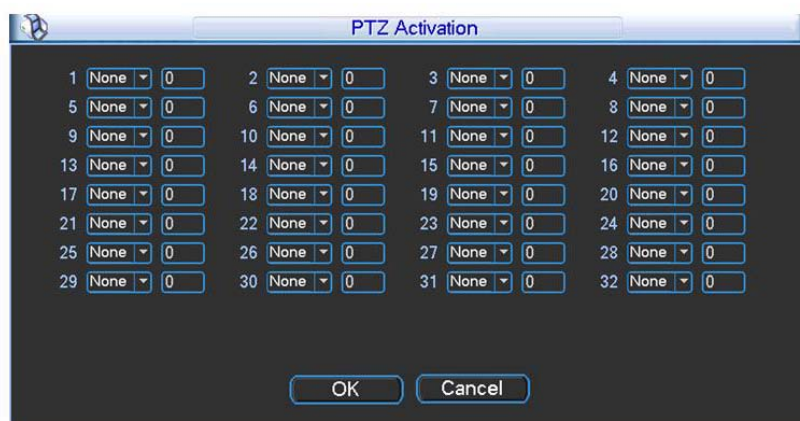

Figure 4-24
- PTZ activation: Here you can set PTZ movement when alarm occurs. Such as go to preset, tour & pattern when there is an alarm. Click "select" button, you can see an interface is shown as in Figure 4-24.